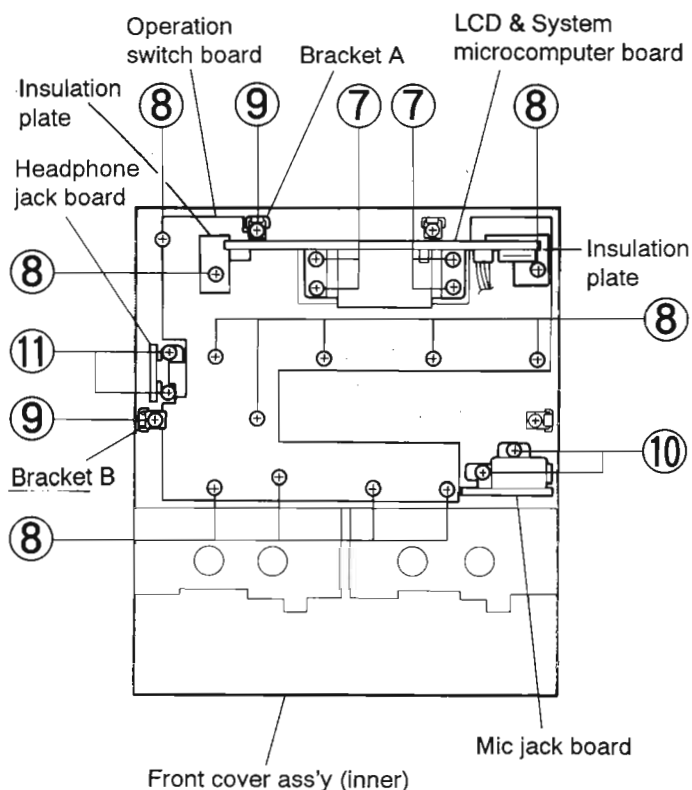

Fig. 5-10
■ How to Remove the Front Cover (Refer to Fig. 5-10)
3. From the front cover, remove the four screws (7) retaining the LCD and system microcomputer P.C. board.
4. From the front cover, remove the twelve screws (8) retaining the control switch P.C. board together with the insulation sheet.
5. From the front cover, remove the two screws (9) retaining the brackets (A and B).
7. From the front cover, remove the two screws (10) retaining the headphone jack P.C. board.
8. From the front cover, remove the two screws (11) retaining the MIC jack P.C. board.